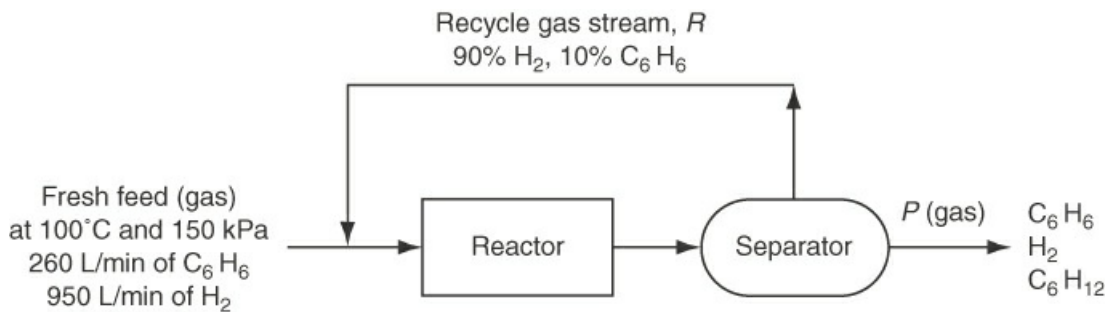

Figure P6.1.52
***6.1.52 Benzene (C₆H₆) is converted to cyclohexane (C₆H₁₂) by direct reaction with H₂. The fresh feed to the process is 260 L/min of C₆H₆ plus 950 L/min of H₂ at 100°C and 150 kPa. The single-pass conversion of H₂ in the reactor is 48% while the overall conversion of H₂ in the process is 75%. The recycle stream contains 90% H₂ and the remainder benzene (no cyclohexane). See Figure P6.1.52.